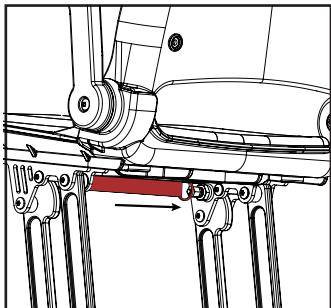

Figure 9
1. Pull the Seat Strap: Stand behind the seat and gently pull the strap located under the seat base to release the locking mechanism (see figure 9).